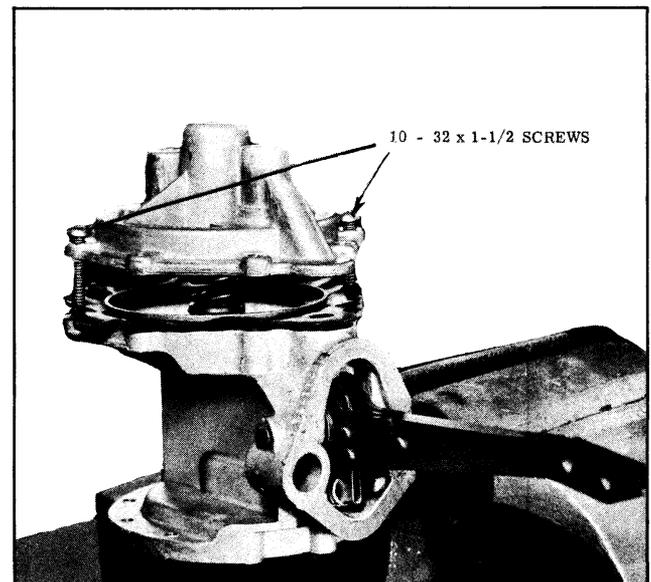

Fig. 8-69 Removing Vacuum Cover
2. Install two #10-32 x 1-1/2" screws in place of screws just removed. Turn these screws all the way down and then remove the remaining six short screws. (See Fig. 8-69) This procedure is important to avoid damage to threads in body.
screws a few turns at a time until the pressure of the heavy vacuum diaphragm spring is released. (See Fig. 8-69) Then remove both screws.